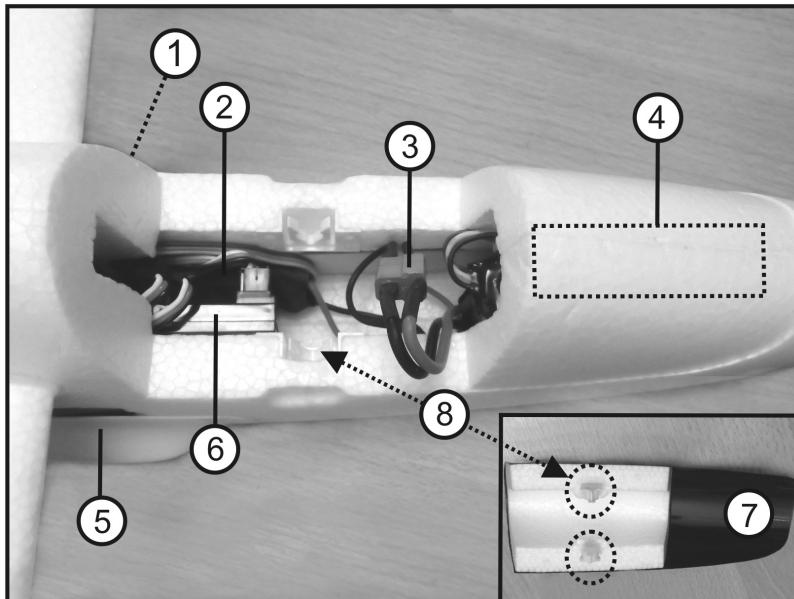

Figure 8
Figure 8 shows the position of the elevator servo (1), the flight controller (2), the plug-in system (3) between flight battery and flight controller, the flight battery (4) and the installation site of the receiver at the side of the fuselage (6).
Connect the flight battery to the flight controller (see figure 8, item 3). The flight controller now checks the „Motor off“ control signal of the transmitter. Depending on how the motor brake is programmed, the flight controller's readiness for operation is signalled by one or two sounds.